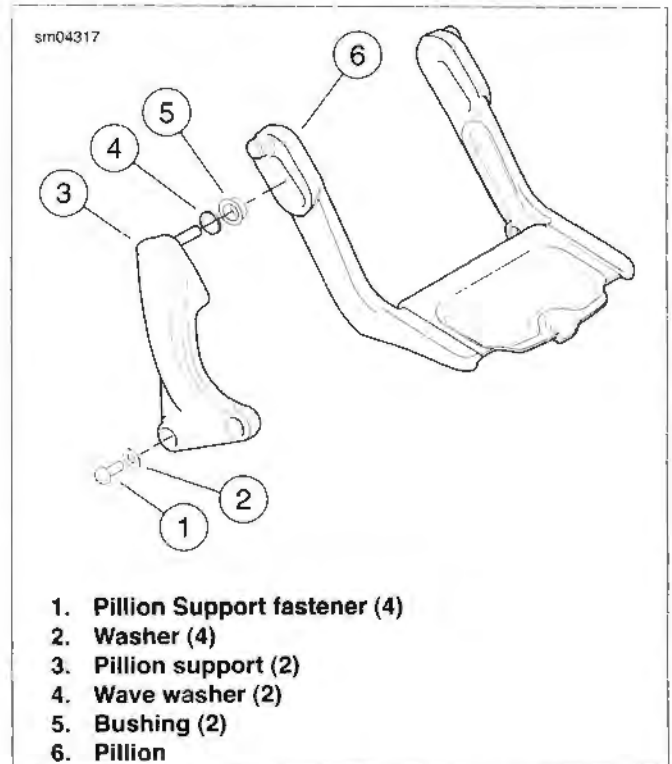

Figure 2-131. Passenger Seat: FXCWC Models
2. See Figure 2-131. Remove two screws (1) and washers (2) from one pillion support (3).
3. Remove pillion support (3) and rear seat pillion (6).
6. Install wave washer (4) and bushing (5) on each pillion support.
7. Install pillion (6) and second pillion support. Tighten all fasteners (1) to an initial torque of 30-35 ft-lbs (40.7-47.5 Nm). Loosen fasteners (1) and final tighten to 38-42 ft-lbs (51.5-56.9 Nm).